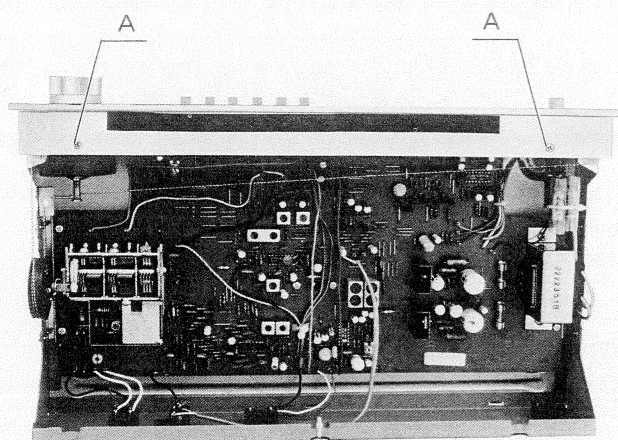

Figure 1
Remove five screws (A) from top and bottom as shown in Figure 1 and 2, and the front panel can be removed with push buttons.